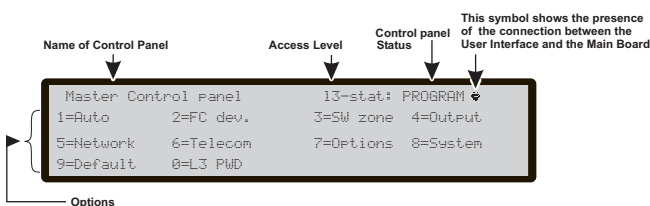

Figure 36 Main programming page
- **F2-ANALYZE** button (see Figure 36) **views** the status of the: LOOP, DEVICE, SW ZONES, OUTPUT, NETWORK, TELECOM, OPTIONS, LOG and the FW Vers.;
From Main page, use the **F1** Key to select the Programming phase. Insert the password (installer code) and then the page is shown in Figure 36: